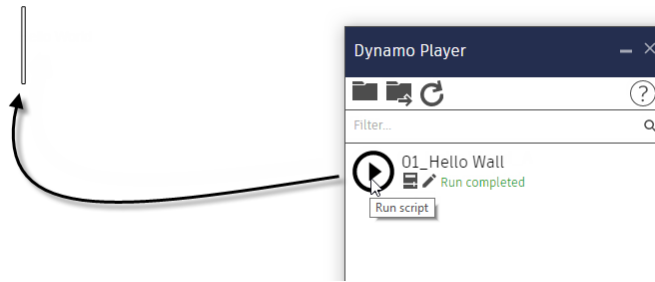

Figure 4
6. Click the play button next to: **01_Hello Wall** (see Figure 4).